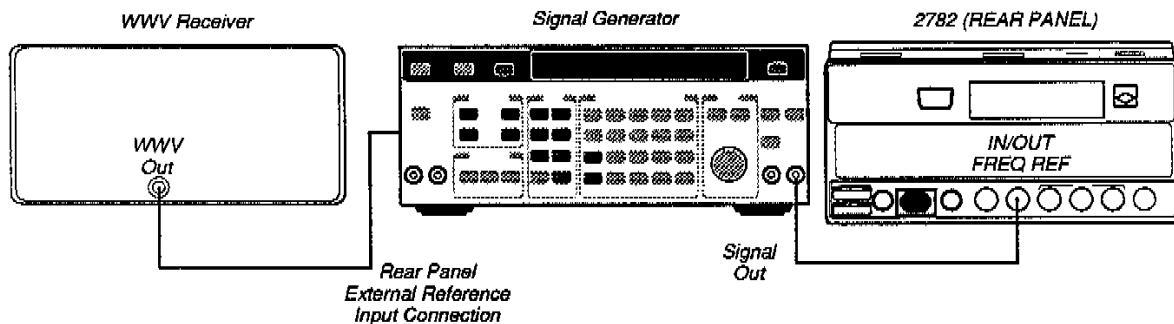

Figure 2-18. Test Equipment Connection for External Frequency Reference Check.
- b. Disconnect the cable from the 2782 RF INPUT connector (if one is still attached). Then, connect a 50 Ω cable from the IN/OUT FREQ REF connector on the rear panel of the 2782 to the output of the signal generator (as shown in Figure 2-18). (The signal generator used is item 8 of the equipment list.)